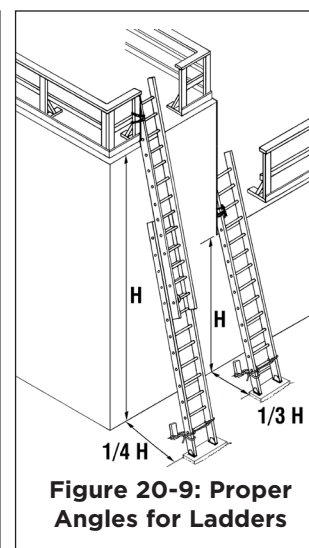

Figure 20-9: Proper Angles for Ladders
- Set up all straight or extension ladders at the proper angle, which is 1 foot back for every 3 or 4 feet up (1:3 or 1:4). (See Figure 20-9.)